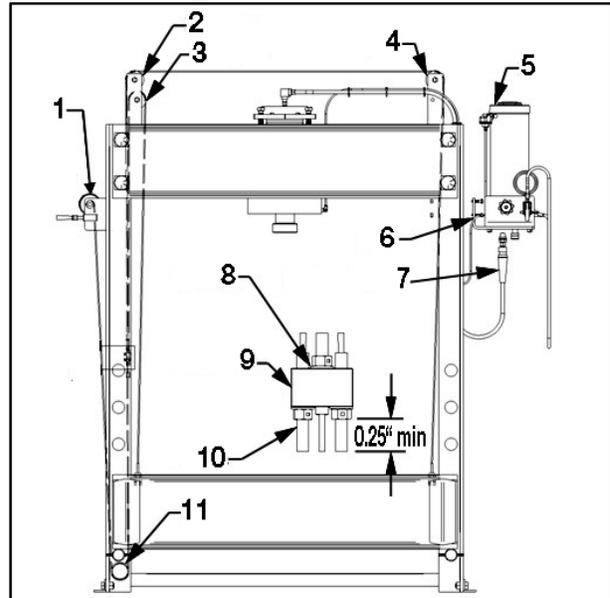

Fig. 3: Winch and power unit installation
2. The power unit is shipped loose. Assemble the power unit on the opposite side of the press from the winch using four $\frac{3}{8}$ "-16UNC x $1\frac{1}{2}$ " long bolts and nuts provided (Fig. 3). Tighten securely.
7. Remove pulley #3 (Fig. 3) and fasten to the opposite location. Pulleys must rotate freely.
9. Remove pulley #4 (Fig. 3).
12. Re-route all cables shown in Fig. 3 and install cable coupler. There must be at least ¼" of the cable end threads past the nut